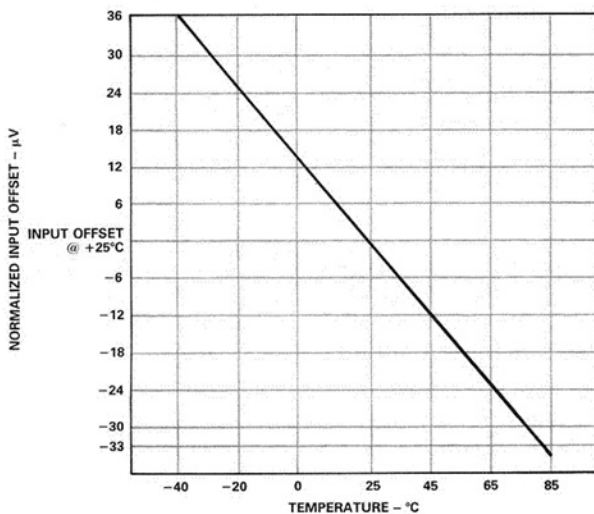

Figure 11. Normalized Input Offset Voltage (µV) vs. Temperature (°C), with  $V_S = 15\text{ V pk-pk}$ , 25 kHz Square Wave
**Input Offset Voltage.** The AD208 exhibits an extremely low input offset voltage temperature coefficient over the -40°C to +85°C temperature range as indicated in Figure 11.